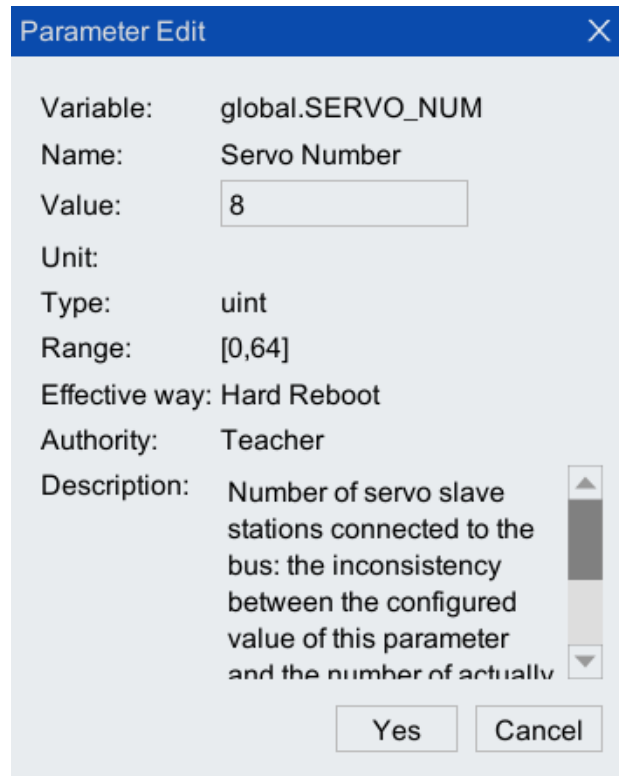

Figure 4-3 Servo slave number configuration interface
Step 3. Click <Edit>, and the dialog box shown in Figure 4-3 will pop up. Configure the parameters in [Value] and click <Yes>.